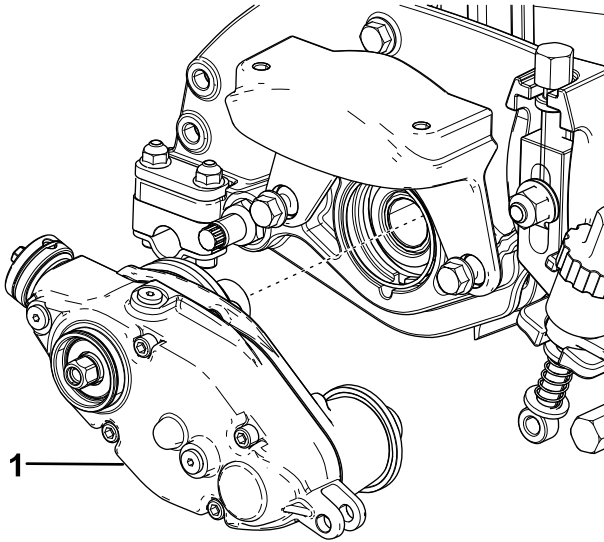

Figure 3
5. Remove the groomer drive box from the side of the reel (Figure 3).